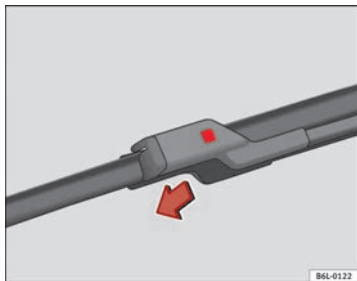

Fig. 138 Change windscreen wiper blade
- Press on the securing tab ⇒ fig. 138.